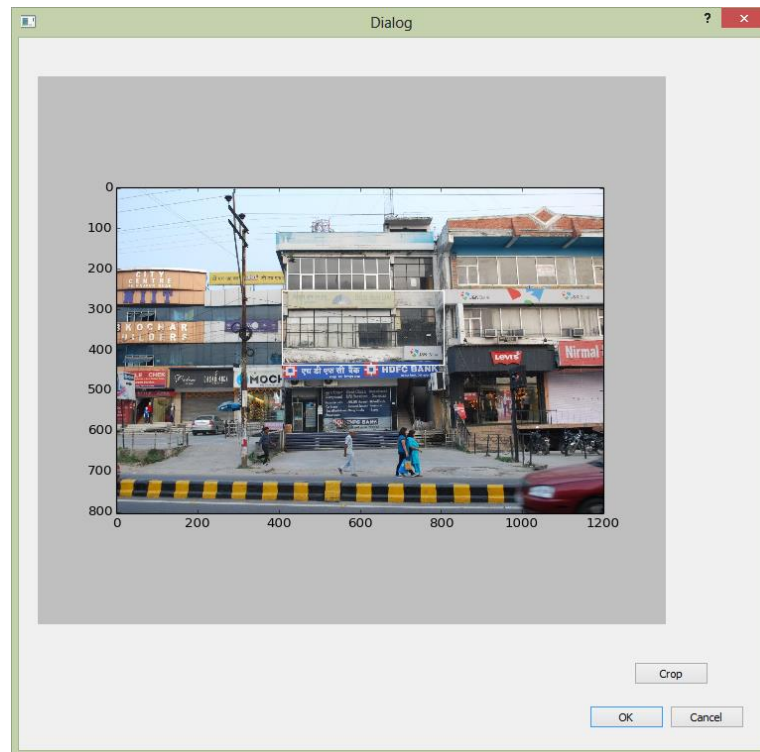

Fig 10: Segmentation window
- A Dialog with image pops up. (Fig 10)
- With this click on one corner of the desired segment and draw complete segment while holding the left click button (don't release the button before completing the quadrant and ensure that the segment is closed). The segment is drawn in 'white' colour. An example image is shown in Fig 10 to draw segments.